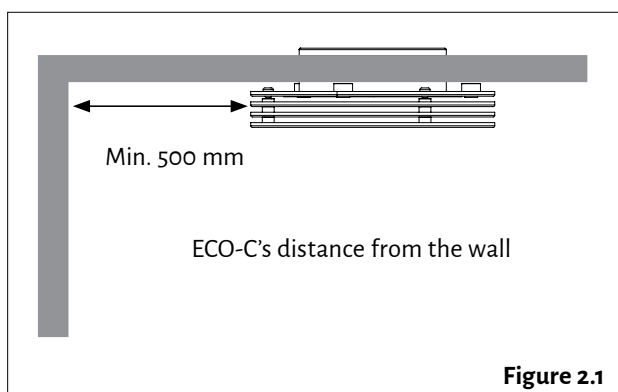

Figure 2.1
2. The minimum distance of the terminal device from the wall is 0.5 m (see Figure 2.1). The terminal device must be installed at a minimum height of 1.8 m. Ensure that children cannot access the device.
3. Detach the grille (2) from the body. Remove the three fastening screws (3) and pull the grille off the body (1).